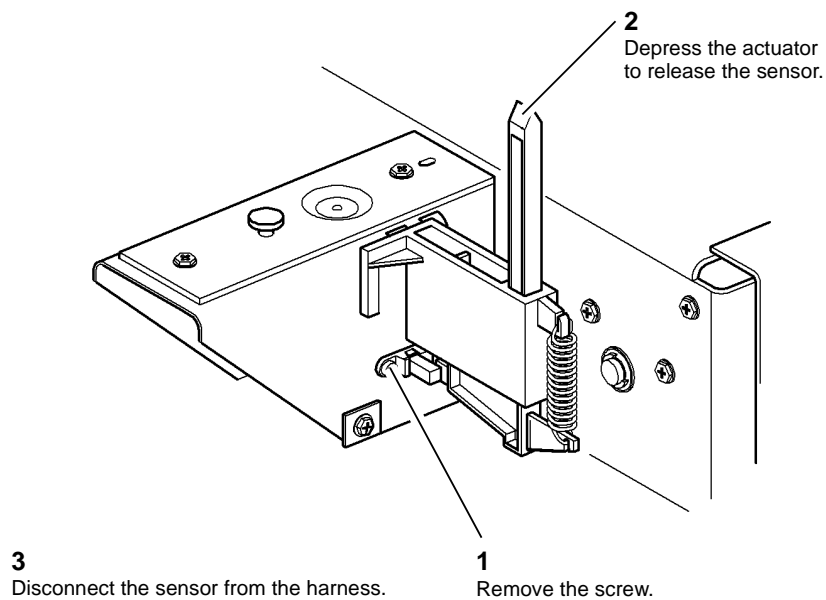

Figure 1 Input module angle sensor
4. Remove the input module angle sensor, Figure 1.